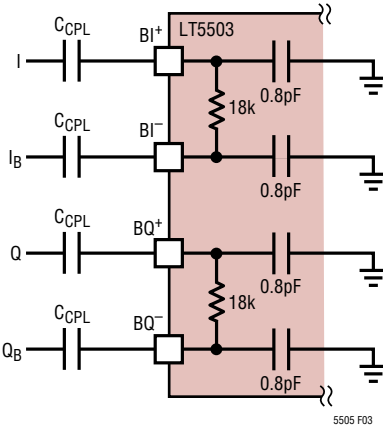

Figure 3. AC-Coupled Baseband Interface
**AC-Coupled Baseband.** Figure 3 shows the simplified circuit schematic of a high-pass AC-coupled baseband interface.